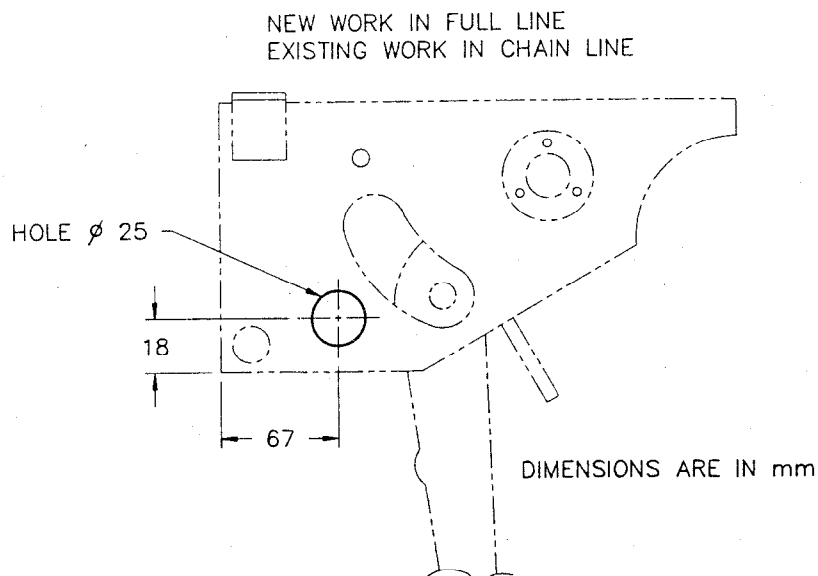

FIG 1 - DIMENSIONS FOR DRILLING OF 25MM DIAMETER HOLE
- c. Drill a 25mm diameter hole in the brake mounting bracket as shown in Fig 1.